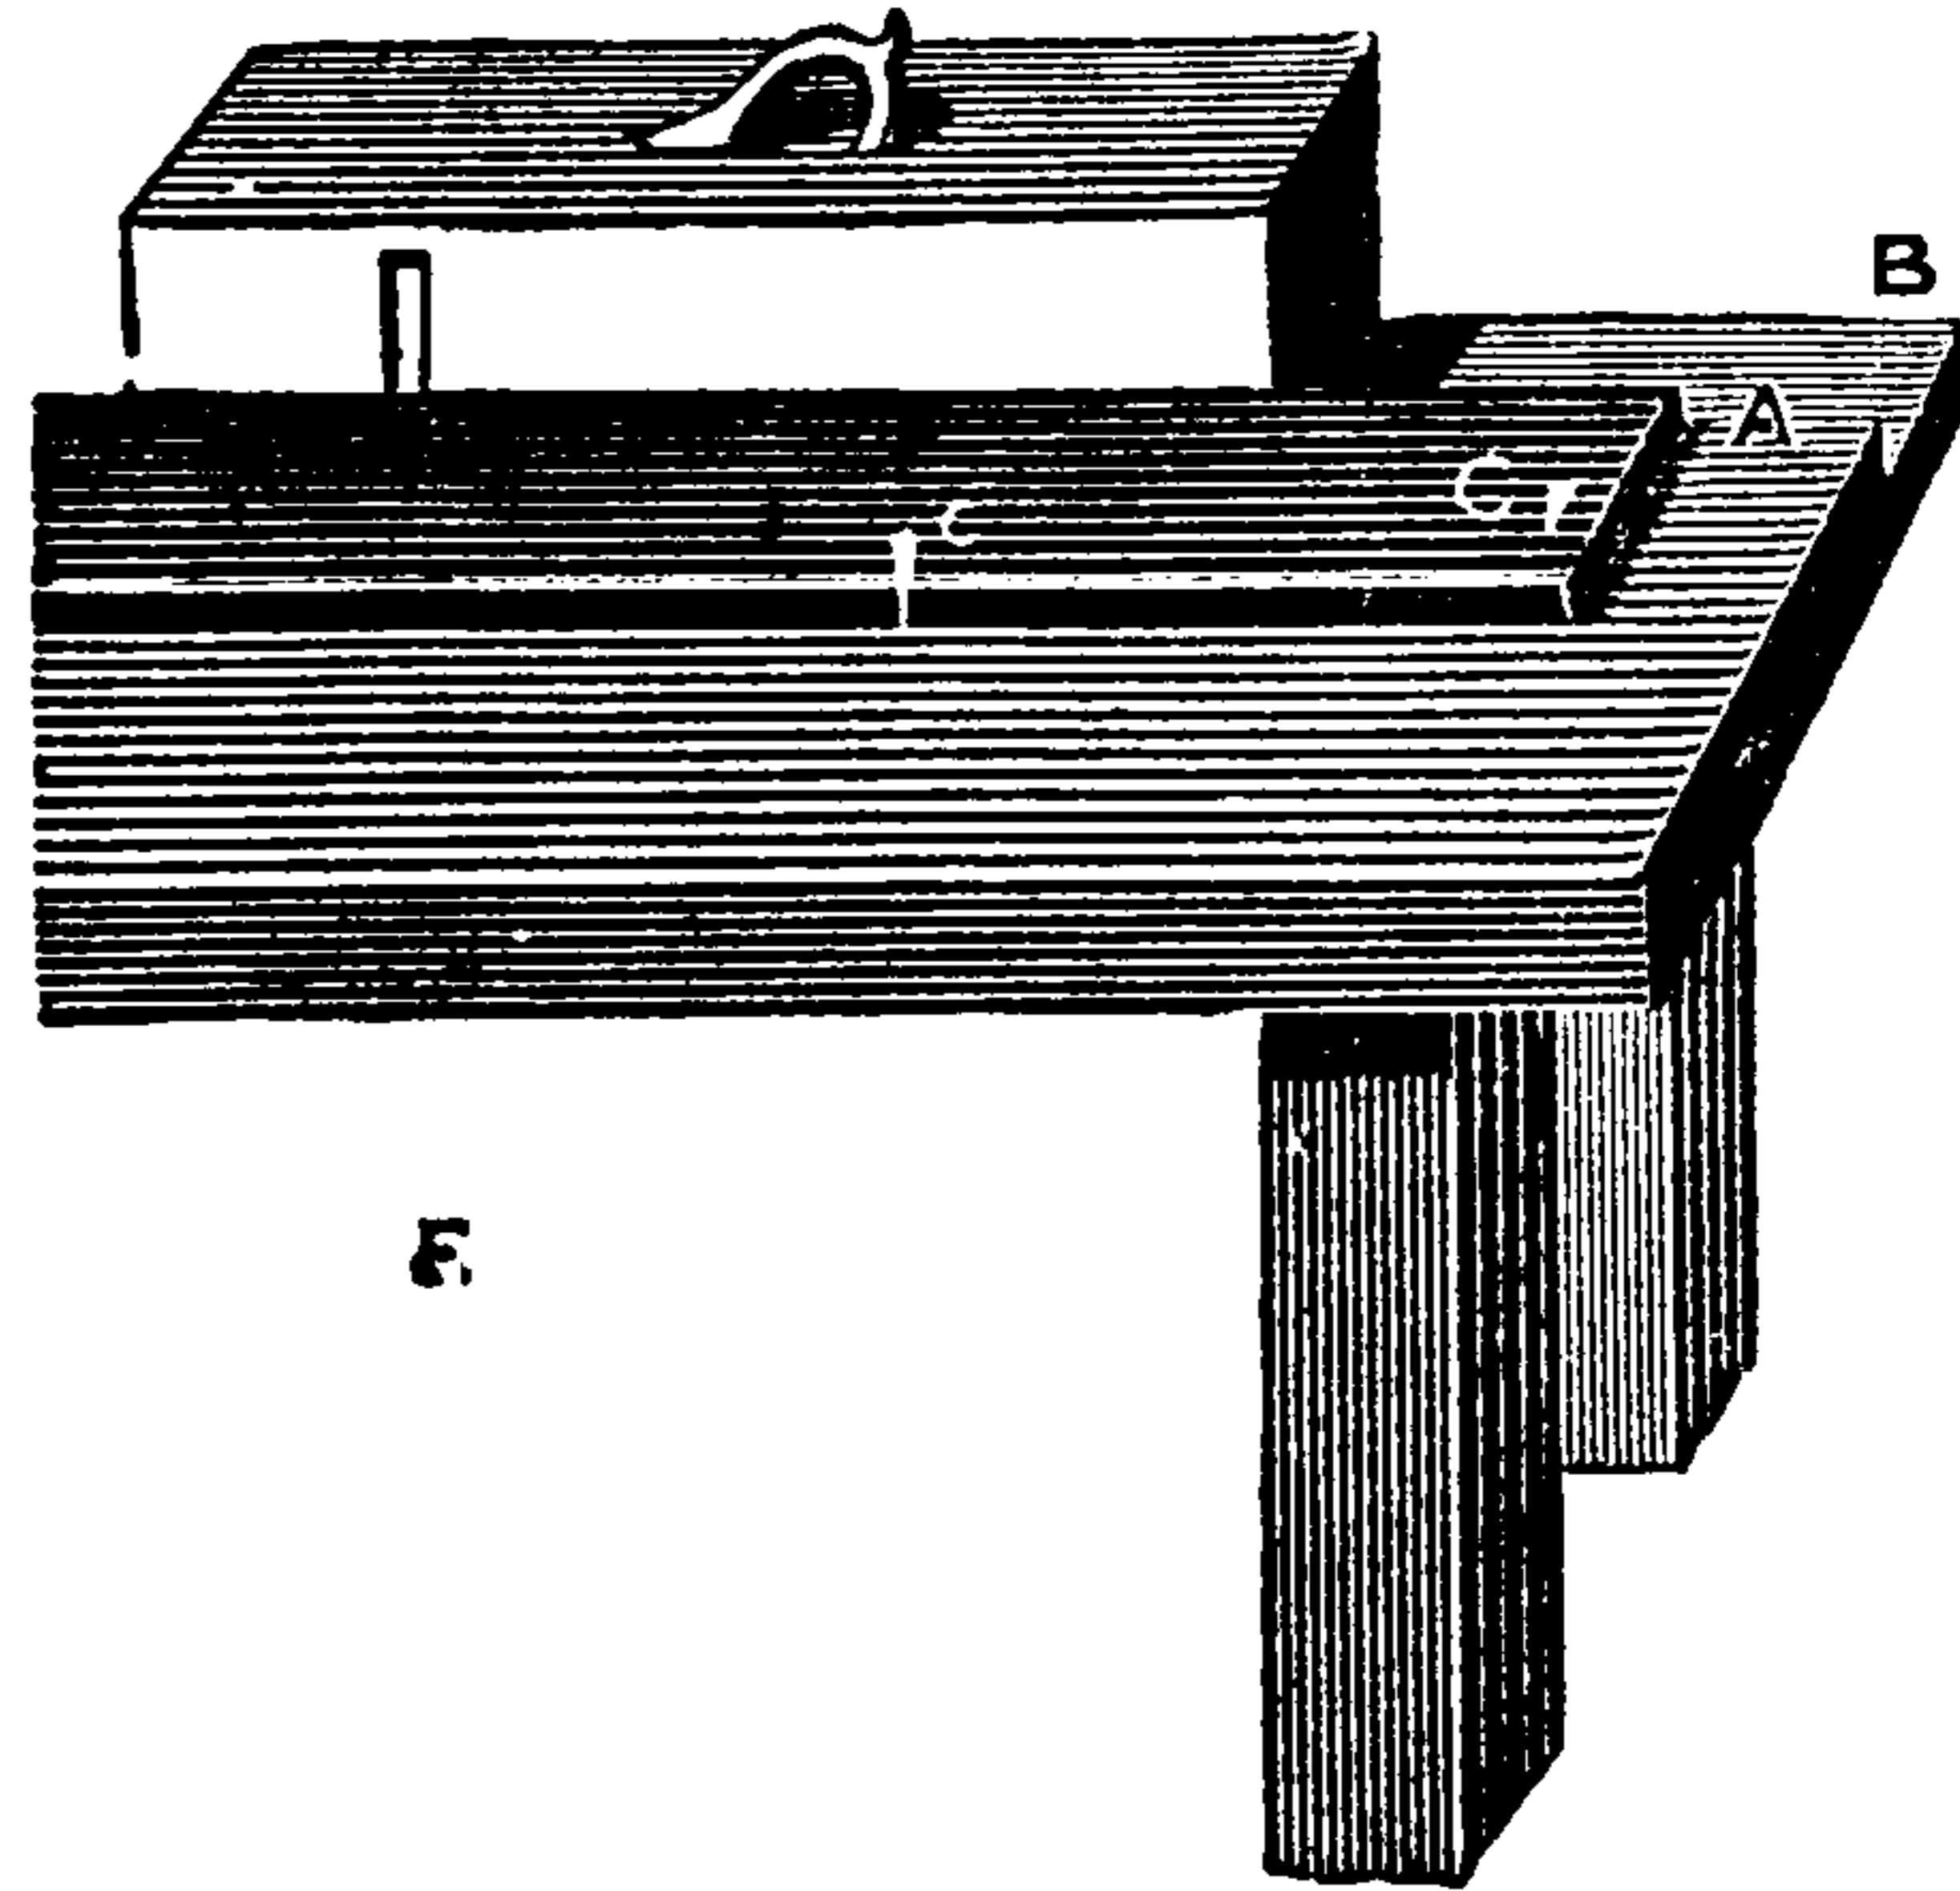

FIG. 44.
**Soil Pipe—Planing or Shooting the Edges.—[Fig. 44.]**
This is very important, and must be done with care. The plan shown at Fig. 44. is very useful, and saves a lot of time; it can be made in a few minutes. I have never seen it used except by myself; therefore, I am inclined to think it original for shooting lead edges. The drawing shows the bench specially made. The edge A must be straight and fixed about 1/4 in. above the fillet B, which should be smooth and not less than 2 1/2 in. wide. Fix the lead with two bradawls C C, as shown. Instead of the bradawl in the centre, fix a lath for the planed side or edge. "Touch"